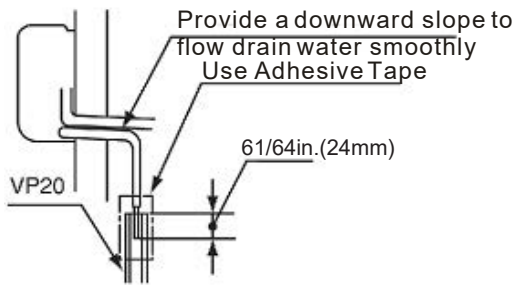

Fig. 6.2 Connection of Drain Piping
- (3) Provide a vinyl chloride pipe, VP20.
- (4) Connect a drain piping as shown in Fig. 6.2. Use adhesive tape for connecting the drain pipe.